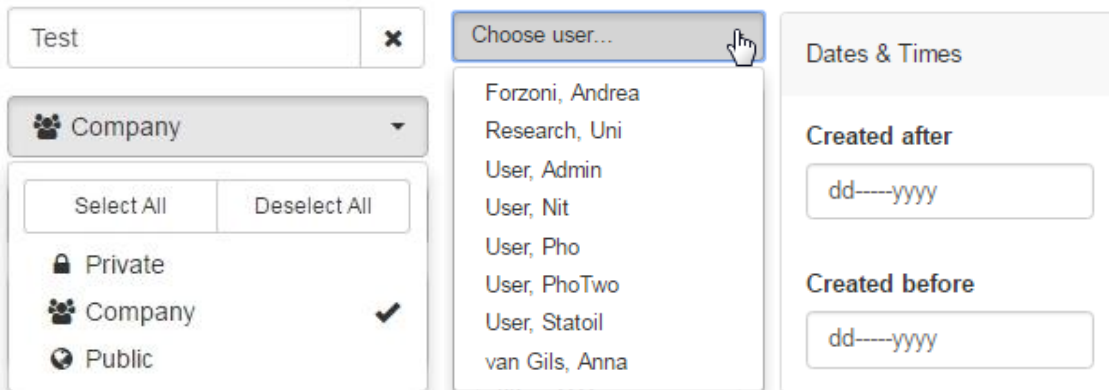

Figure 3.13 The name and domain (left panel), user (central panel) and date & times filters (right panel)
- 'Name' filters all the available runs based on their name. This filter can be deactivated by clicking on the cross on the right side of the filter icon (Figure 3.13)
- 'Domain' filters the database based on whether they are 'private' or shared with 'company' or with 'public' (Figure 3.13). Clicking on the icons 'Select all' and 'Deselect all' results in ticking and de-ticking of all the options, respectively.
- 'User' (Figure 3.13) filters the runs based on the user who created the runs (e.g. owner of the runs).
- 'Date and times' (Figure 3.13) filters the runs based on the date on which the run is created.